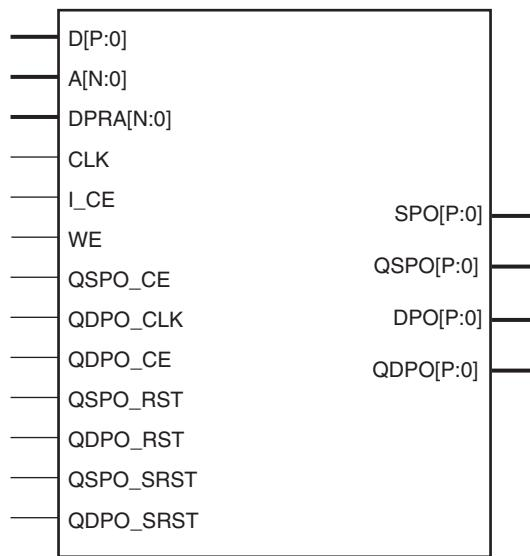
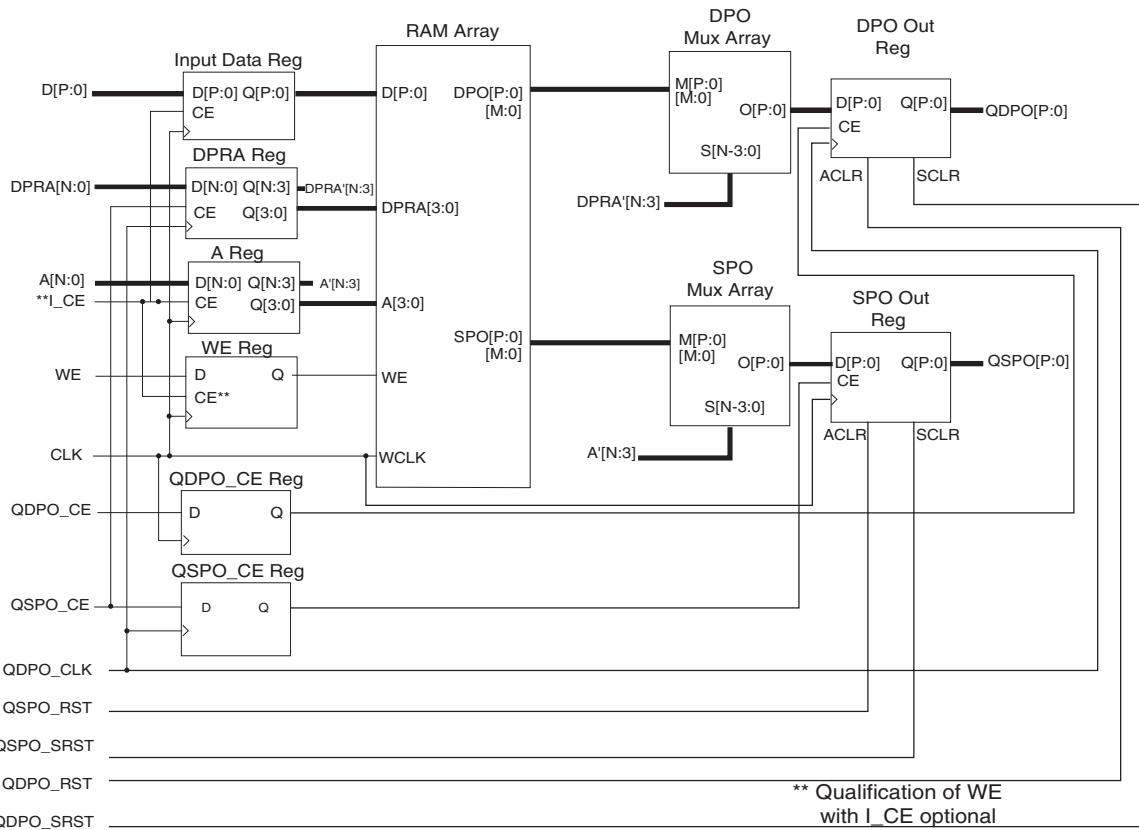

Figure 5: Dual-Port RAM Schematic Symbol
Figure 6: Dual-Port RAM Module Schematic
Writes to the distributed dual-port RAM are synchronous to the clock (`CLK`). However, read operations from the distributed dual-port RAM can be asynchronous or synchronous with respect to either of the two clocks (`CLK` or `QDPO_CLK`). Figure 5 illustrates the dual-port RAM schematic symbol, showing the relevant ports. Figure 6 shows the internal implementation of the distributed dual-port RAM. If a pipeline register is added to a registered core (not illustrated), the additional register is re-timed into the SPO MUX array and DPO MUX array.
- **Dual-Port RAM.** Figure 6 illustrates a schematic of the structure of the dual-port RAM modules. The address and data registers are optional (controlled by the setting of the Input Options parameter). The dual-port read address register is optional (controlled by the setting of the Dual-Port Address parameter). Output registers for both output ports are also optional (controlled by the setting of the Output Options parameter). When registered outputs are selected, the two output ports can be clocked by the same or different clock signals and can have the same or different clock enables (based on the settings selected for the Common Output Clock and Common Output CE parameters). All resets and clock enables are optional. Note that the clock CLK is always required, because writes to the RAM are synchronous to that clock.